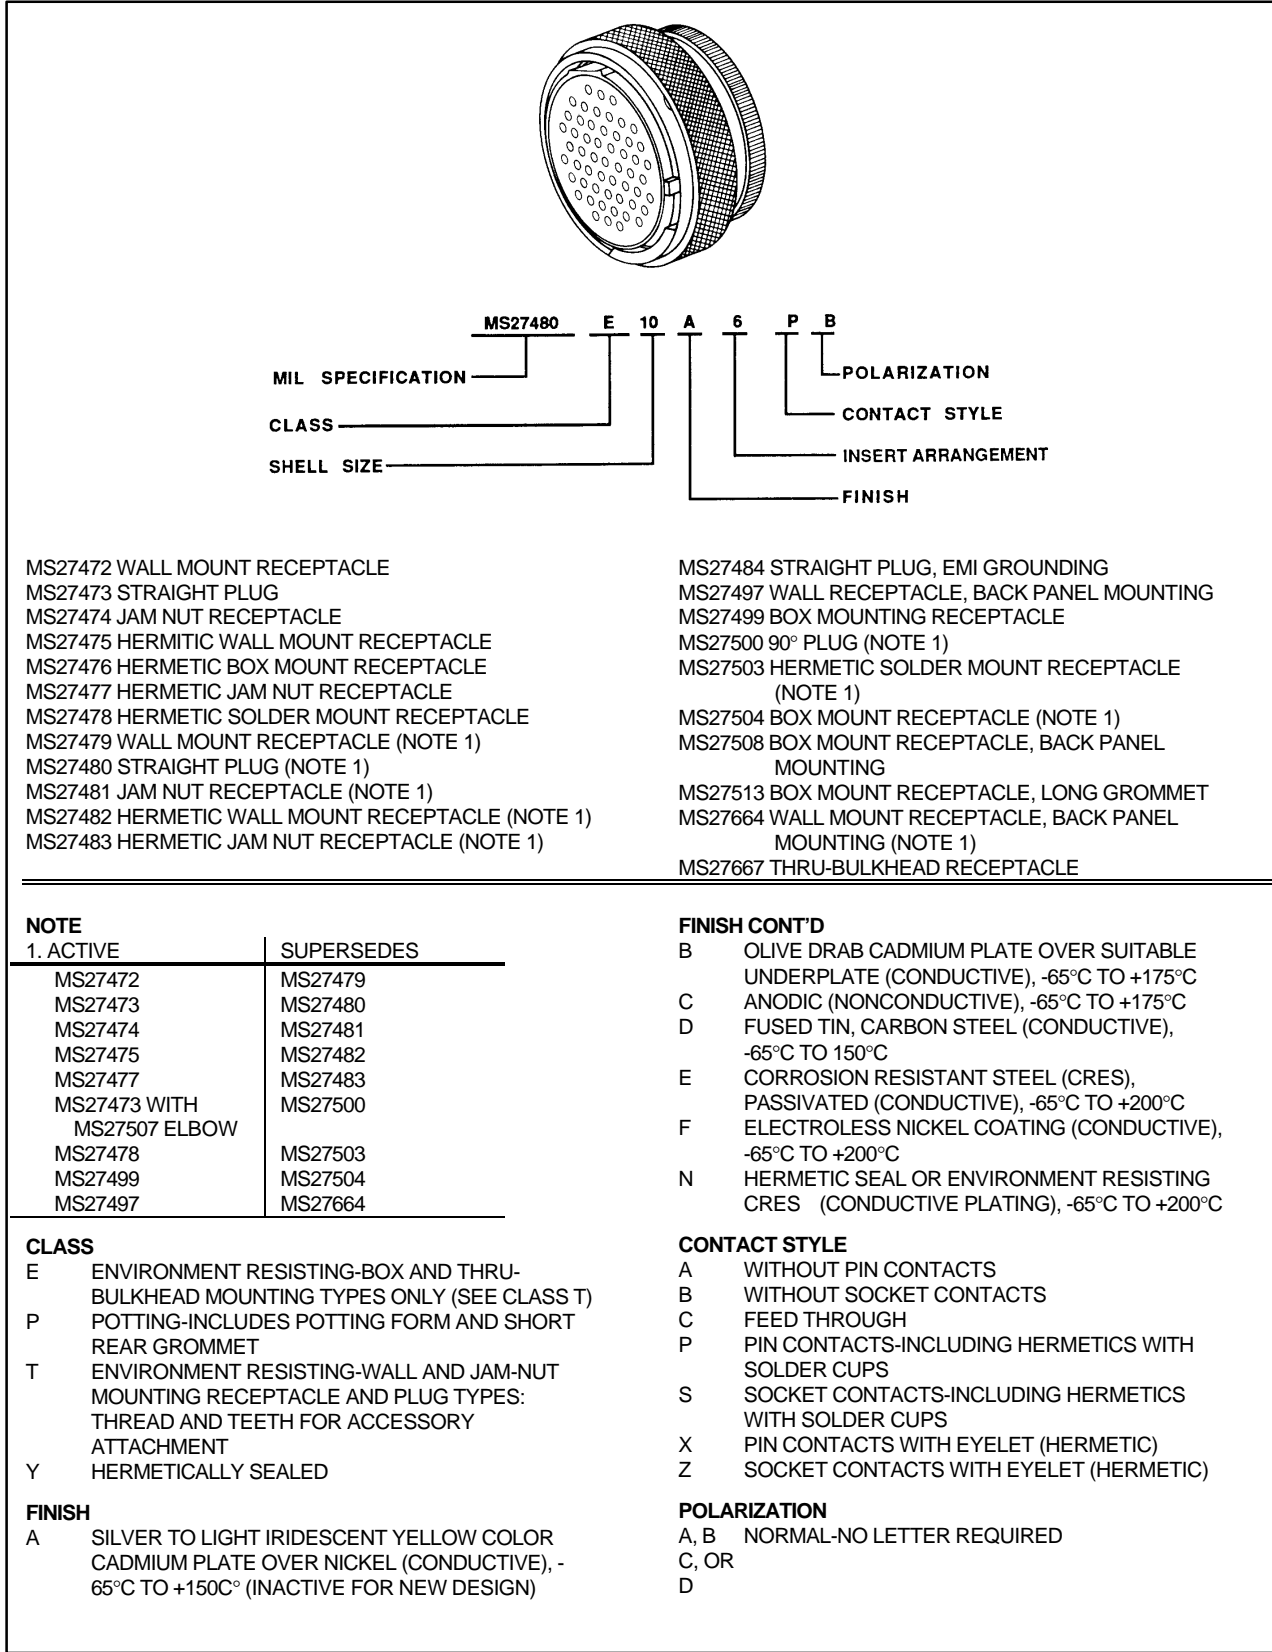

FIGURE 11-35. Connector information example.
11-232. TYPES OF CONNECTORS. Connectors must be identified by an original identification number derived from MIL Specification (MS) or OAM specification. Figure 11-35 provides some examples of MS con-